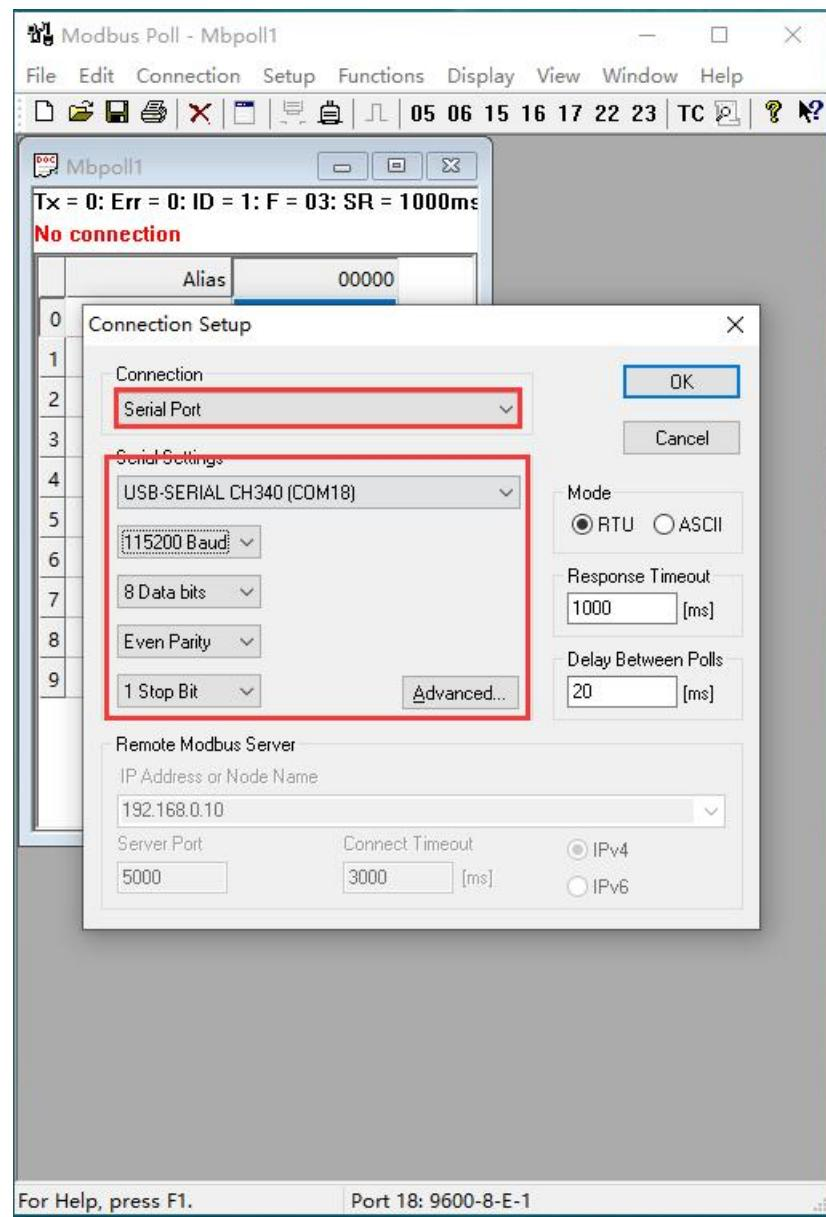

Figure 6-31 MODBUD \_ RTU Host Parameter Settings
- 4) Click "Connection" to create a connection, and the setting parameters of MODBUD \_ RTU are shown in Figure 6-31.